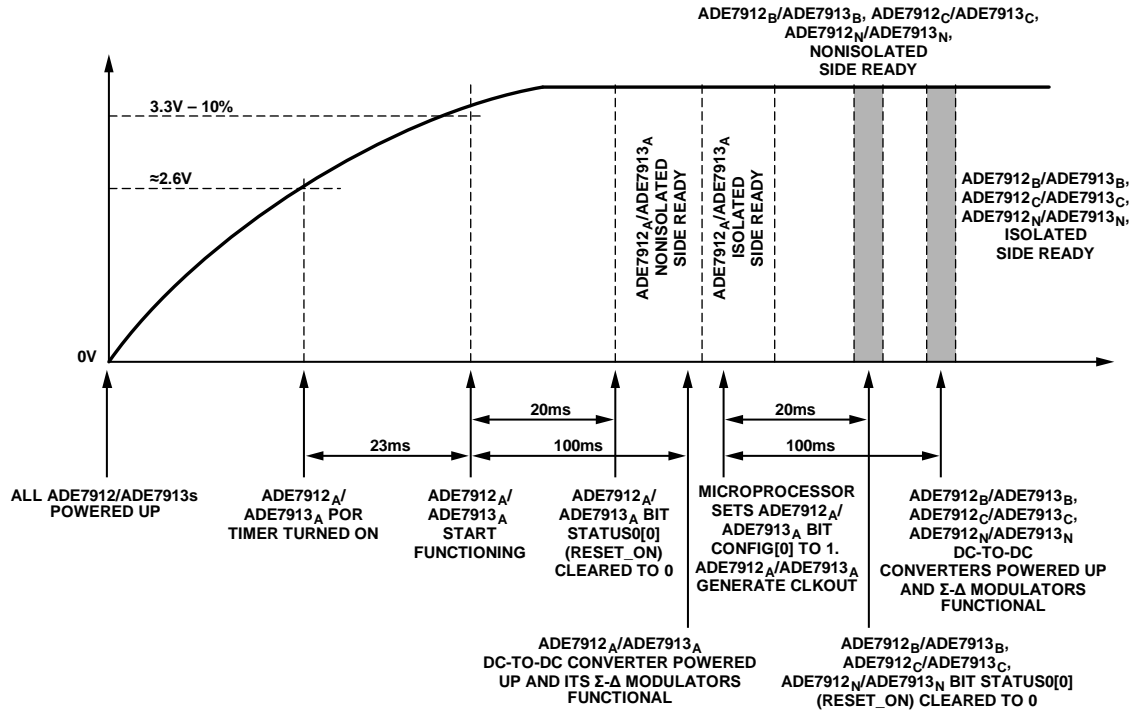

Figure 52. Power-Up Procedure for Systems with Multiple ADE7912/ADE7913 Devices; Only Phase A ADE7912/ADE7913 Are Clocked from a Crystal
For the polyphase energy meters shown in Figure 34, Figure 36, and Figure 37, in which one single crystal is used, the power-up procedure is as follows (see Figure 52):
1. Supply VDD to the ADE7912/ADE7913 devices. To ensure that the Phase A ADE7912/ADE7913 (labeled ADE7912A/ADE7913A in Figure 52) device starts functioning correctly, the supply must reach 3.3 V – 10% in less than 23 ms from approximately a 2.6 V level. The ADE7912A/ADE7913A device is clocked by the 4.096 MHz crystal and starts functioning. The other ADE7912/ADE7913 devices are not clocked yet.
8. Initialize the CONFIG register of all remaining ADE7912/ADE7913 devices. Select one ADE7912/ADE7913 device (Phase C ADE7912/ADE7913 in Figure 34, Figure 36, and Figure 37 examples; labeled ADE7912C/ADE7913C in Figure 52) and connect the CLKOUT/DREADY pin to an external interrupt I/O pin of the microcontroller. ADE7912C/ADE7913C must have Bit 0 (CLKOUT\_EN) in the CONFIG register left at the default value of 0 to use the DREADY functionality of the CLKOUT/DREADY pin.